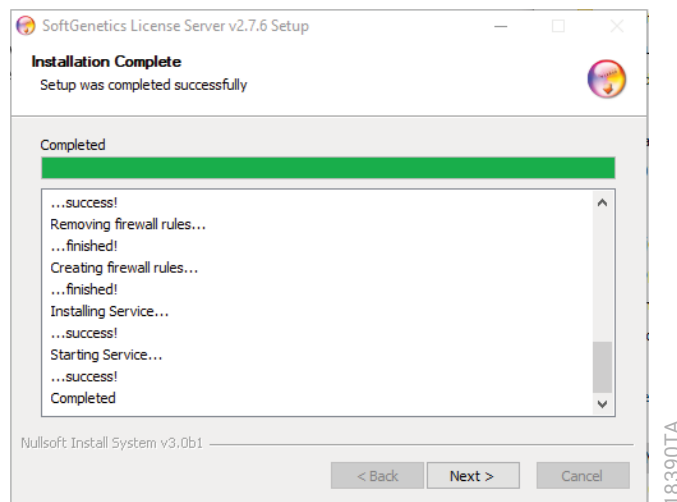

Figure 30. 'Installation Complete' window.
13. Select **Next** in the 'Installation Complete' window (Figure 30).